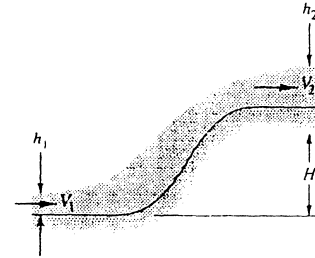

Fig. P3.178
3.178 For the water channel flow of Fig. P3.178, $h_1 = 0.45 \text{ ft}$, $H = 2.2 \text{ ft}$, and $V_1 = 16 \text{ ft/s}$. Neglecting losses and assuming uniform flow at sections 1 and 2, find the downstream depth h_2 . Show that *two* realistic solutions are possible.